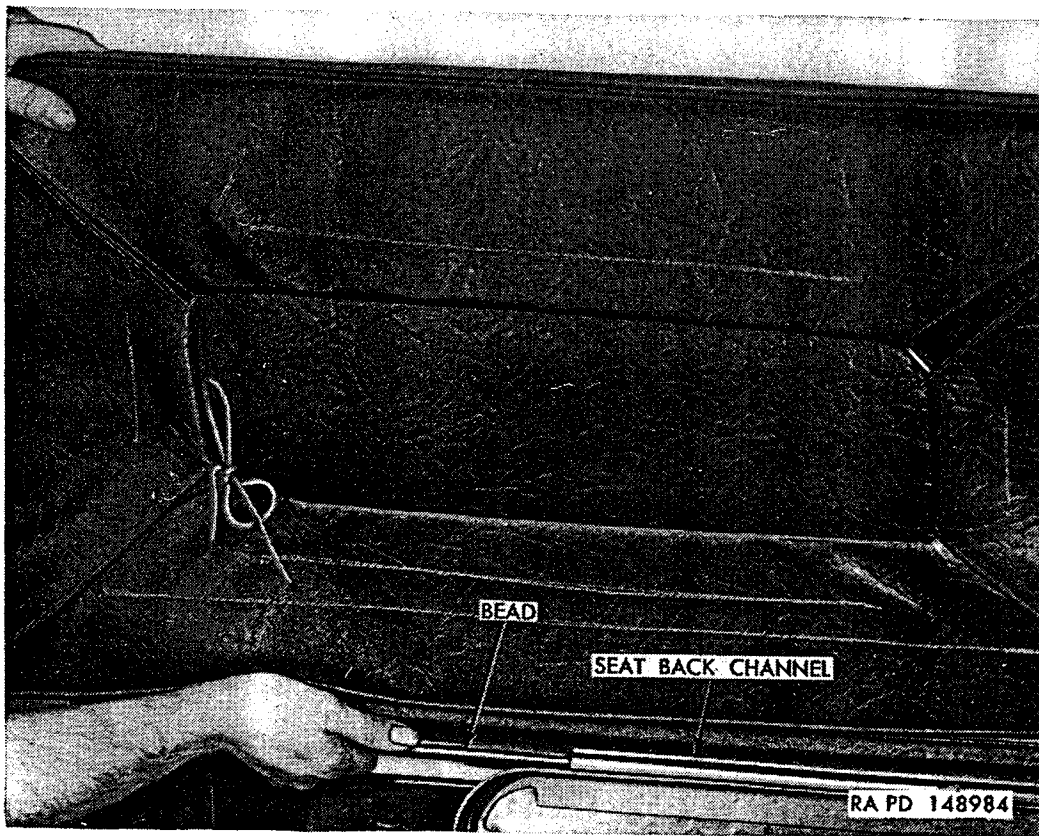
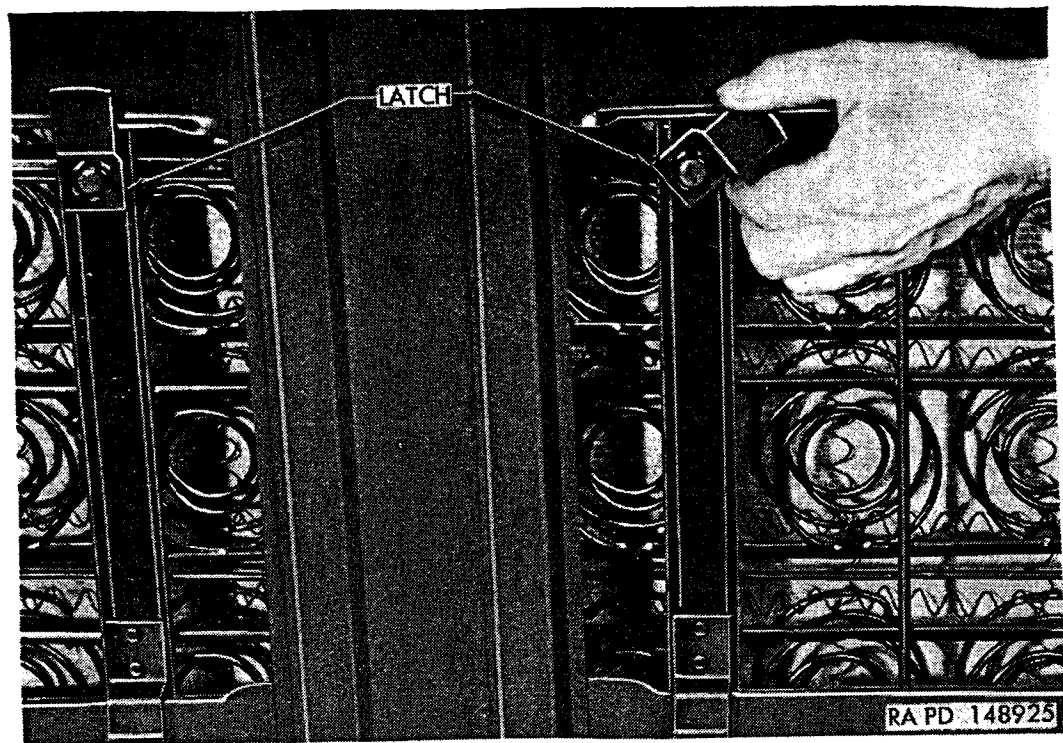

Figure 319. Companion seat back cushion removal.
Figure 320. Companion seat cushion removal.
- (1) *Removal and disassembly.* Pull bottom of seat back cushion forward and upward. Slide seat back cushion to side to disengage bead on cushion from metal channel on seat back (fig. 319). Raise seat bottom frame to vertical position. Disengage seat spring latches (fig. 320) by tapping with hammer. Lower seat bottom to horizontal position. Lift seat cushion from seat bottom frame. Untie lacing cord at bot-
- (2) *Assembly and installation.* Position seat back pad in cover, thread cord through loops, pull cord taut and tie. Position seat cushion cover over spring and pads (fig. 321) and engage loops of cord in hooks on spring bottom (fig. 321). Pull cord taut and tie. Position seat cushion on seat frame, raise to vertical position, and engage latches (fig. 320), by tapping with hammer; then lower seat to horizontal position. Holding seat back cushion upside down, engage bead on seat back cushion in metal channel on seat frame. Slide bead fully into seat back channel (fig. 319); then lower cushion into place.